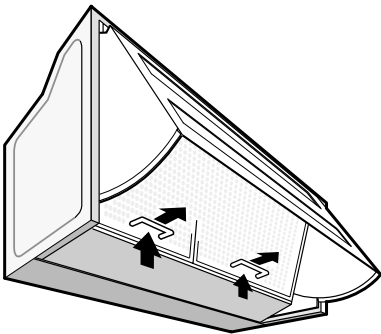
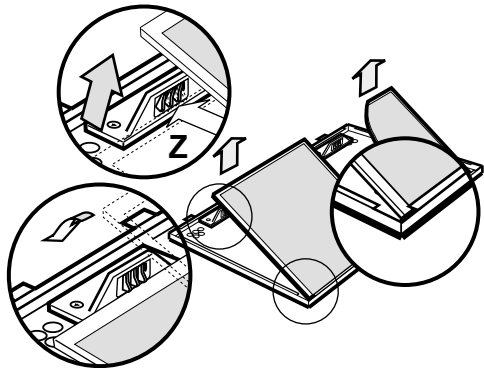

Fig. 2a
Fig. 2b
- **Model CHDE 6260:** To remove the grease filters, first pull the handles upwards, then extract the filter outwards. **Fig. 2a.**
- **Model 335 D:** To remove the grease filters, first remove the grid (see Fig. 2a) and take out the grease filters pushing on the locking springs Z. **Fig. 2b.**